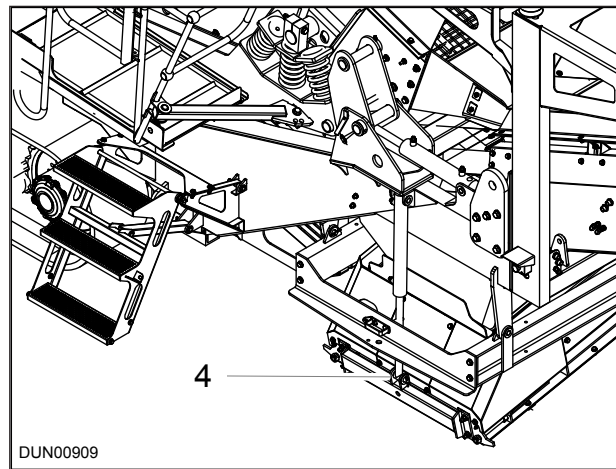

Figure 7.31 - Middle Grade Feedboot
4. If the Middle Grade conveyor is in the working position it is necessary to raise the feedboot (Item 1, Reference. Figure 7.31) prior to tracking. To raise the feedboot operate the control lever (Item 1).